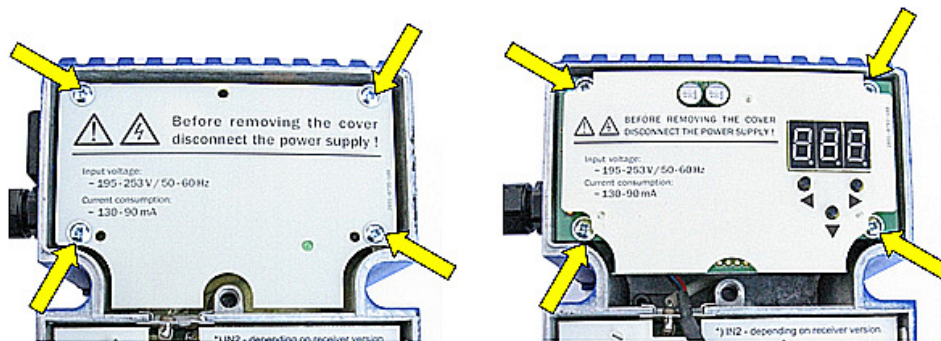

Fig. 8.3. Replacing the M-729 remote monitoring module - step 1.
- remove the four screws attaching the power unit enclosure or the M-729 remote monitoring module, depending on factory fitted options - see fig. 8.3 and 8.4,
- Fig. 8.3. Replacing the M-729 remote monitoring module - step 1.